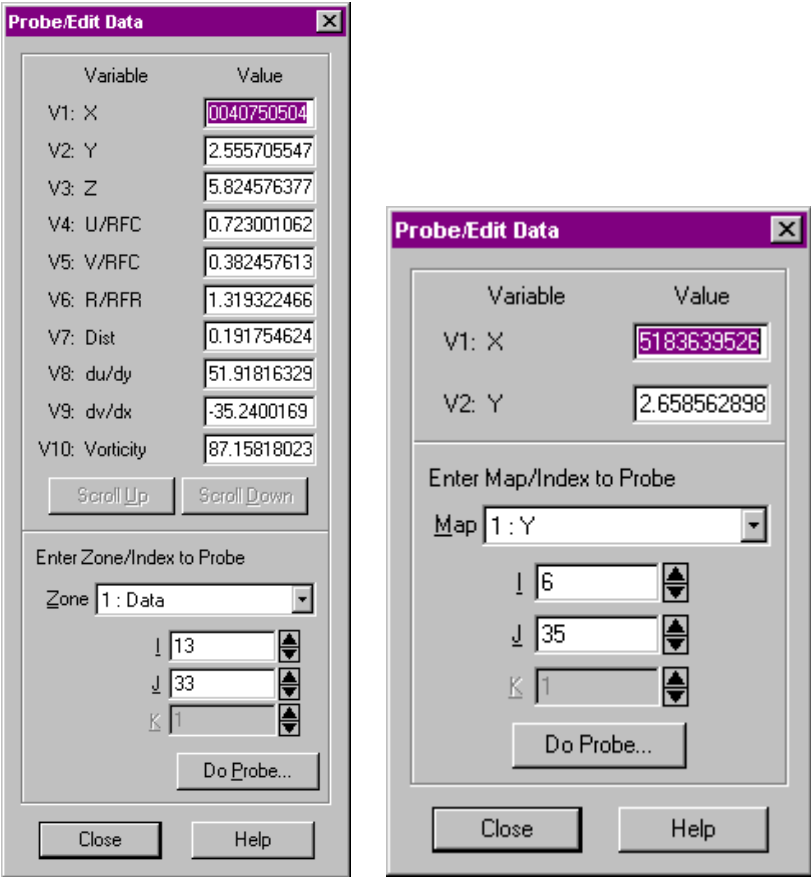

Figure 26-9. Probe/Edit Data dialog for field plots (left) and XY-plots (right).
4. Double-click on the point you want to edit, or click on the point and then click Object Details on the sidebar. The Probe/Edit Data dialog appears, as shown in Figure 26-9. All variables in the zone or mapping are listed, along with their values at the probed point. In 2D and 3D frame mode, the Probe/Edit Data dialog has Scroll Up and Scroll Dn buttons which are active if the data set has more variables than can be displayed on one page of the dialog.